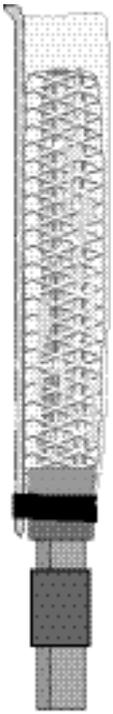

Figure 19
9. Leaving at least 1/2" of sealant collar exposed, roll the wrapper down to the sealant collar forming a cylinder. (Figure 19)
10. Secure the wrapper with two laps of tightly wrapped vinyl tape. (Figure 19)